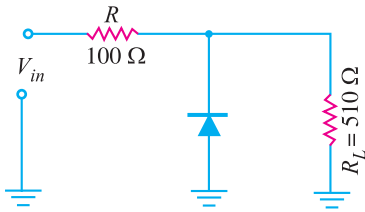

Fig. 18.66
1. The negative shunt clipper shown in Fig. 18.66 has peak input voltage of +15 V. What is the output peak voltage? [12.54 V]